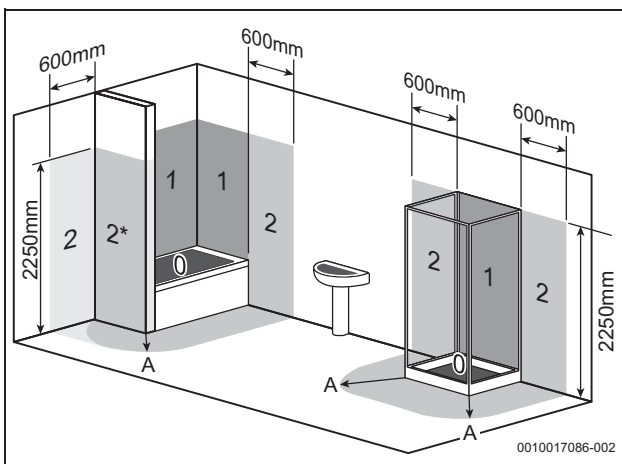

Fig. 10 Bathroom installations
- Figures 10 and 11 are for guidance only.